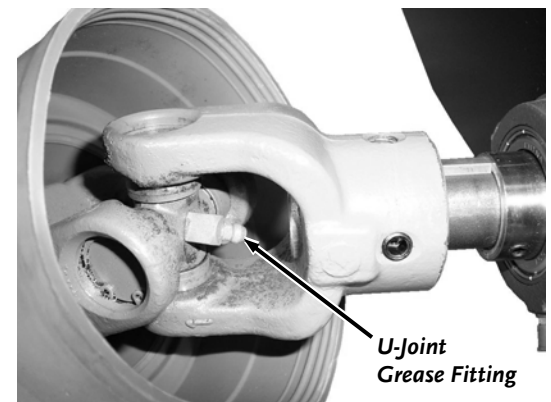

Figure 14
2. Apply no more than three pumps of quality general-purpose lithium grease with a hand-pumped grease gun to each of the two U-Joint Grease Fittings (**Figure 14**).